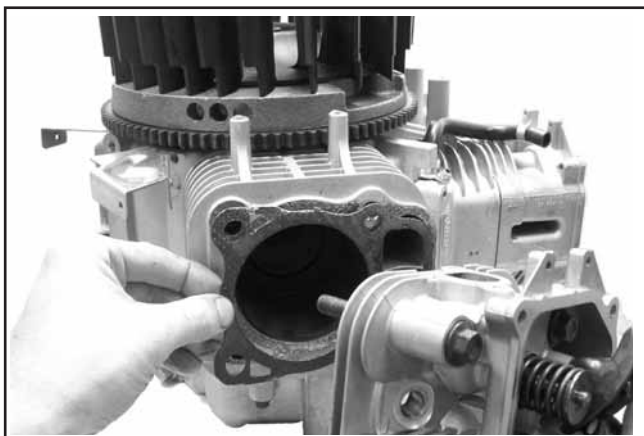

Figure 8-29. Removing Cylinder Head and Gasket.
5. Remove the cylinder head and head gasket. See Figure 8-29.